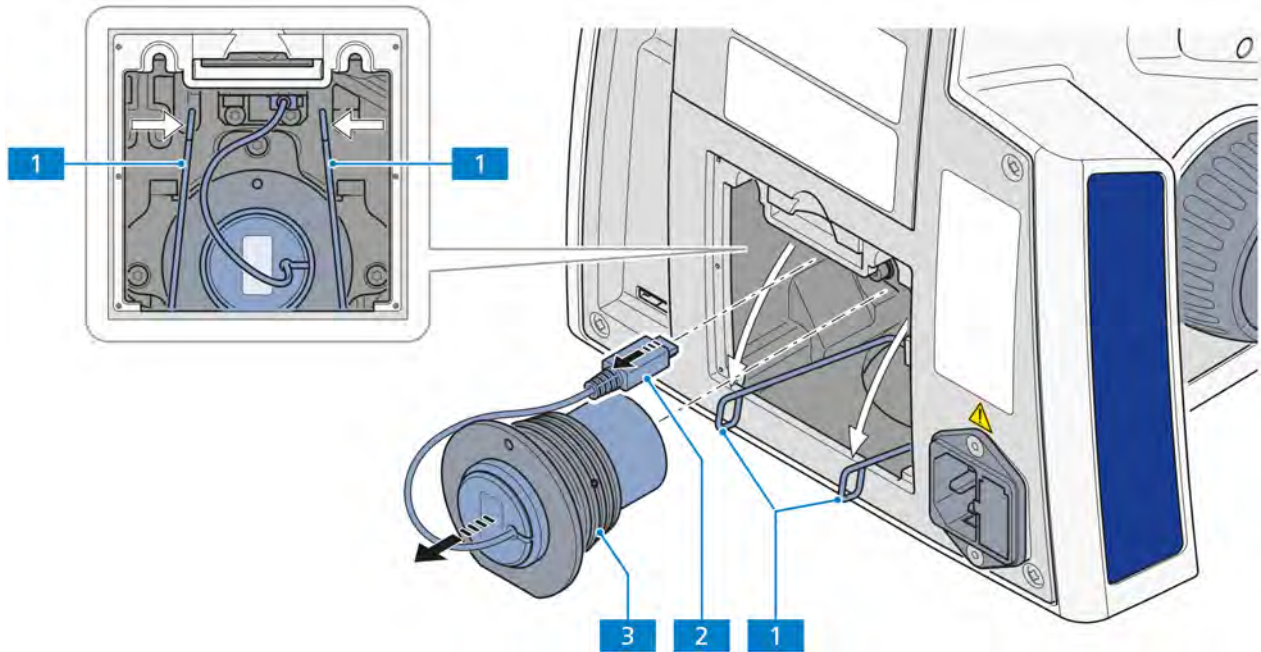

Fig. 3-17 Removing the LED illuminator
- Press the loops (Fig. 3-17/1) on the securing clips of the lamp holder together and swing them out to the front.
- Remove the LED illuminator plug (Fig. 3-17/2) from the connector of the stand.
- Pull the old LED illuminator with adapter (Fig. 3-17/3) out of the holding tube (Fig. 3-17/1).